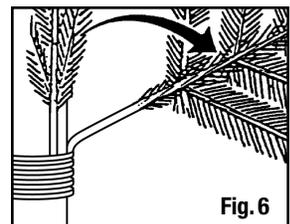

Fig. 6
- 3b. **WRAPPED TREES:** Working your way up from the bottom, gently lower all branches from their upright setting by grasping the branch and pulling it downward (Figure 6). Each branch must be shaped to a natural position by spreading out the left and right tips away from the center tip (See Shaping Instructions on page 6). Continue to lower branches on upper section(s) in the same manner.